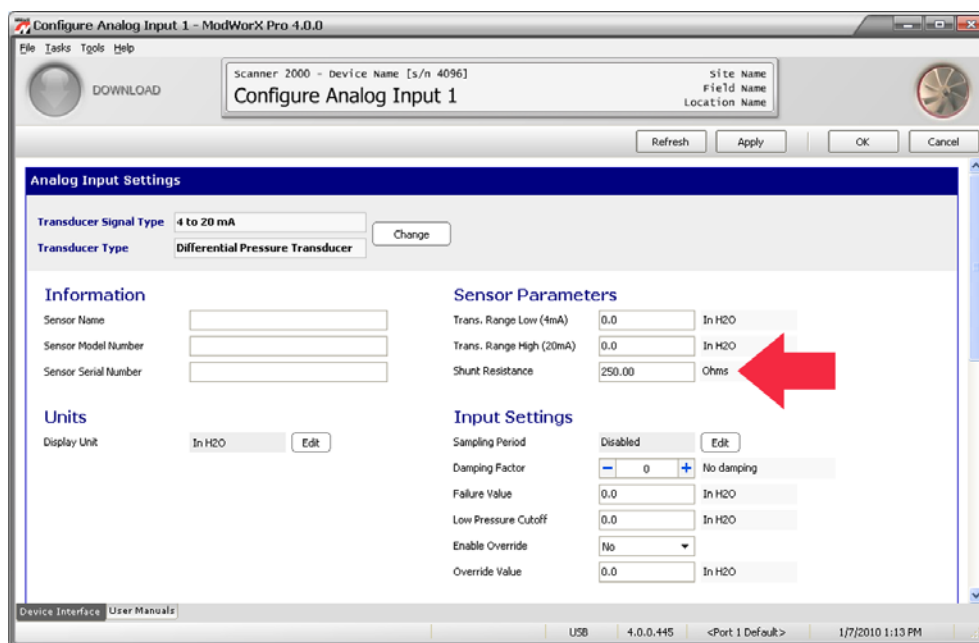

Figure 6.22
- c. If a 4-20 mA transmitter is being used, a resistor is required in the field wiring of the analog input device. A third data field—Shunt Resistance—will appear in the Sensor Parameters section of the screen. Enter the resistance value (ohms) of the resistor installed in that field (Figure 6.22).